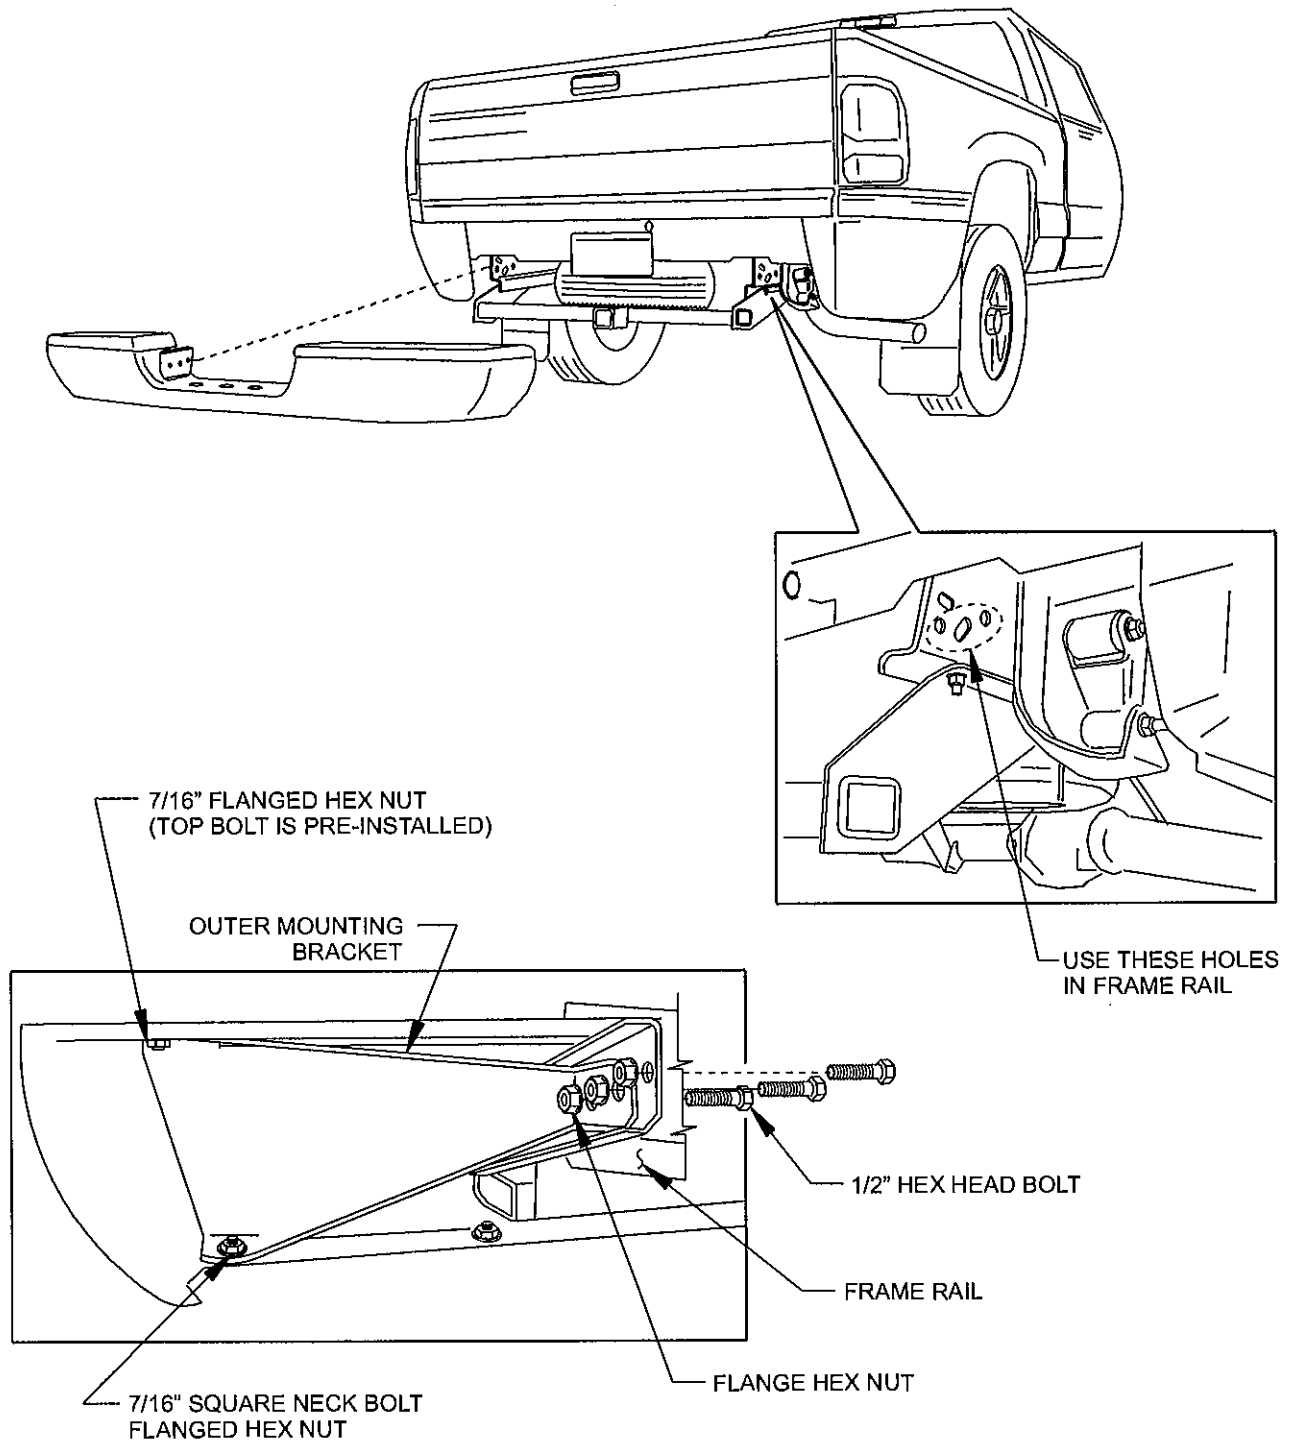

FIGURE 2 (PASSENGER SIDE VIEW)
- STEP 2: Install outer mounting brackets to bumper shell using 7/16" square neck bolts. locking hex nut. Refer to Figure 2. Loosely assemble.
- STEP 3: Loosely install bumper assembly to outside of frame rails using 1/2" hex head bolts, locking hex nuts. Refer to Figure 2.